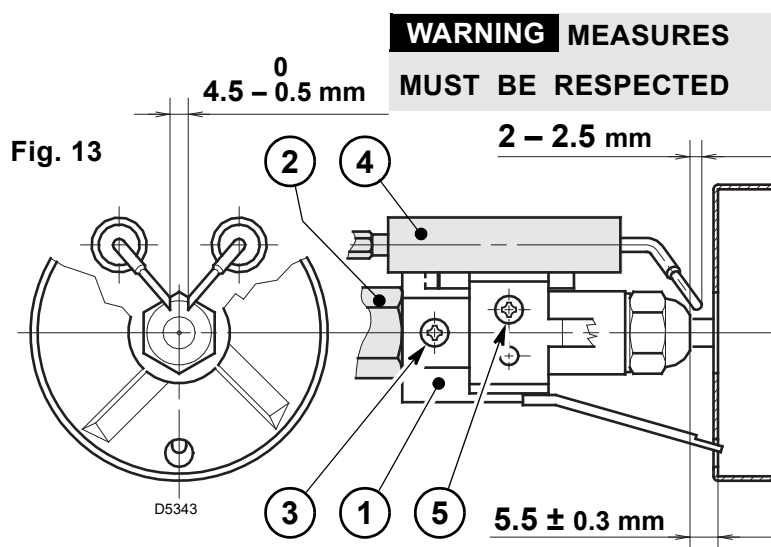

Fig. 13
- Hook the burner to the flange (1), by removing the blast tube (2) after loosing the fixing screws (3).
- Remove the small cables (4) from the electrodes and the diffuser disc-holder assembly (5) from the nozzle-holder assembly after loosing its fixing screw (3, Fig. 13, page 7).
- **Screw the nozzle (6) correctly and tighten it as shown in the figure.**
- Withdraw the small cables (4) from the electrodes, remove the diffuser disc-holder assembly (9) from the nozzle-holder assembly (1) after loosening screw (3, Fig. 13).
- **Screw the nozzle (10) correctly and tighten it as shown in figure.**
- In the sketch the combustion head is set for an output of 0.85 GPH at 15 bar. The set-point 3 of the regulating rod (8) is at the same level with the outside plane of the nozzle-holder assembly (1) as shown in the schedule;
4.2 ELECTRODES ADJUSTMENT (see Fig. 13)